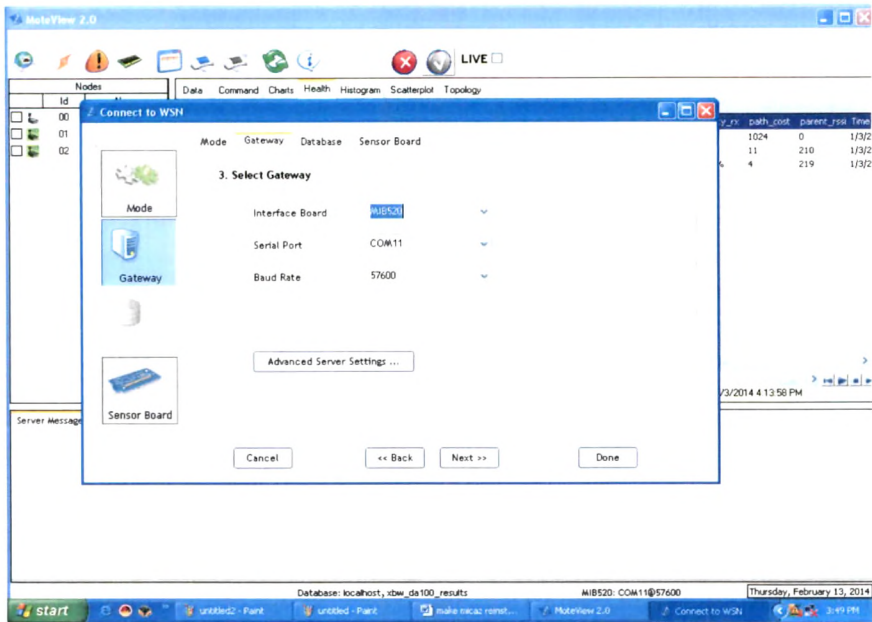

Figure A.15: Gateway Configuration
3. In the Gateway tab (Figure A.15), select MIB520 from interface board, COM10 as serial port, and select 57600 as baud rate.